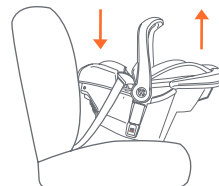
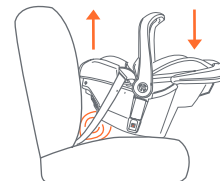

Fig. 52-2
Fig. 52-3
- If the Seat Angle Indicator shows the level line parallel with the ground, the seat is installed at the proper level of recline for occupants greater than 22 lb. to 30 lb. (Fig 52-3).
- If the Seat Angle Indicator line is not level, the Safety Seat is either **too upright** or **too reclined**. If the Safety Seat is too reclined adjust the Safety Seat as shown in (Fig. 52-2), until the level indicator shows **level**. If the Safety Seat is too upright, place a tightly rolled towel, or pool noodle, under the foot end of the Safety Seat until the level indicator shows level (Fig. 52-3). Re-tighten the vehicle seat belt as instructed in section **Securing the Safety Seat or Base in the Vehicle**.